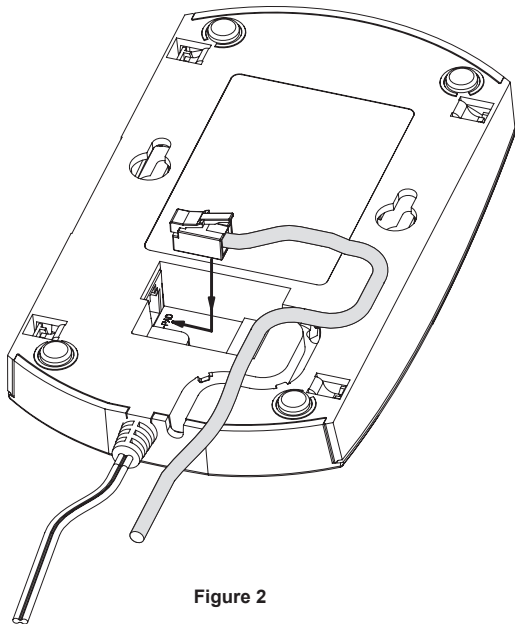
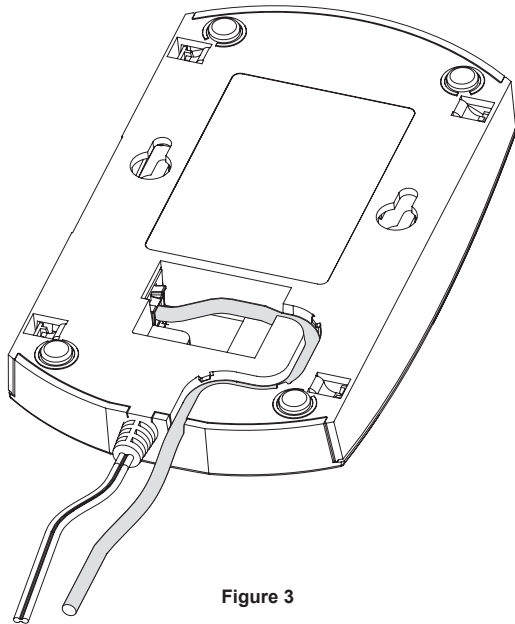

Figure 2
Figure 3
1. If installing an EIB170RFAU, connect the vibration pad to the V-PAD socket (see *figure 2*). Ensure the vibration pad cable is inserted into the channel to facilitate wall installation (see *figure 3*).